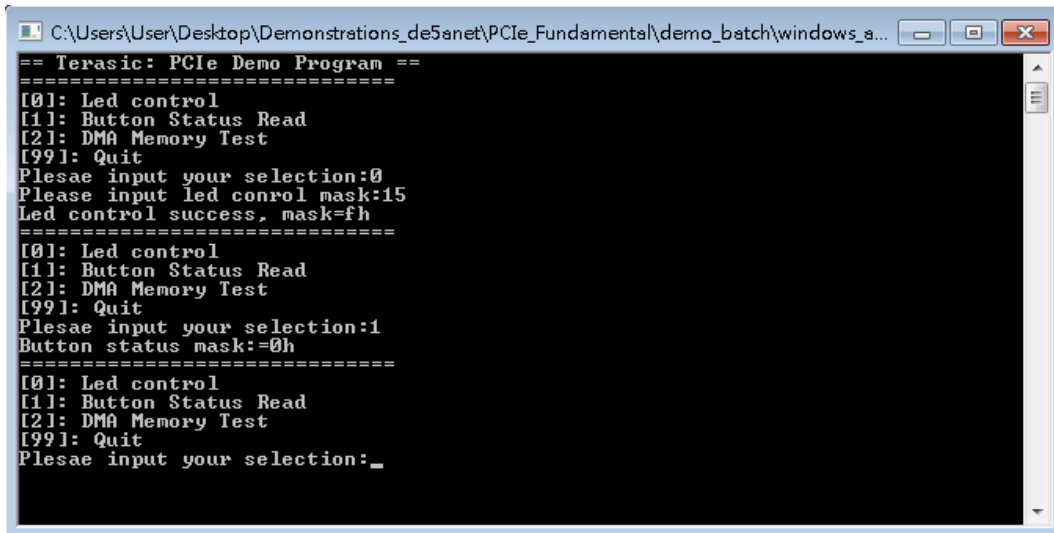

Figure 7-13 Screenshot of Button Status Report
8. Type 1 followed by an ENTER key to select Button Status Read item. The button status will be report as shown in **Figure 7-13**.